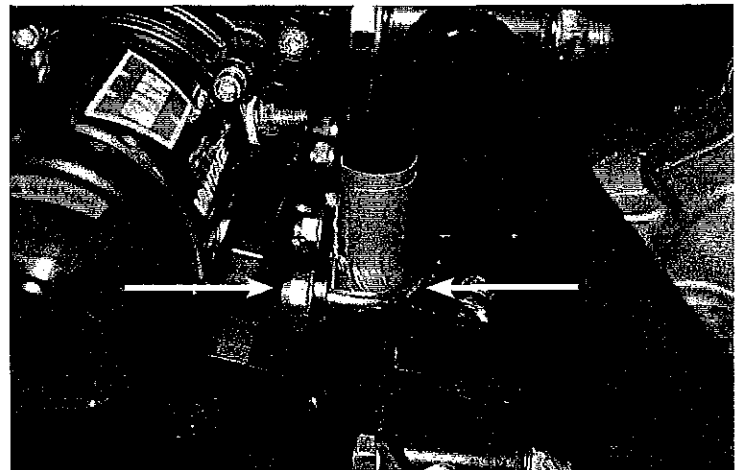

Figure 12
12. Attach the rear of the winch mounting bracket using the 8mm u-bolts provided and 8mm flanged nuts. See Figure 12.